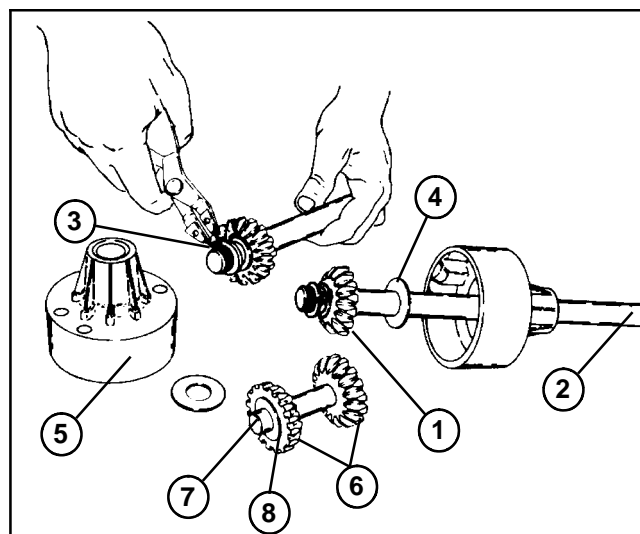

Figure 44
2. Attach bevel gears to the axles. Lock each gear in place with both retaining rings. Make sure flat side of retaining rings are away from the gear (Fig. 44).
3. Coat both washers with molybdenum disulfide grease. Slide each washer onto an axle (Fig. 44).
4. Slide the long axle through the needle bearings of the differential carrier housing with the four threaded holes. Thoroughly coat the bevel gear with molybdenum disulfide grease. Make sure the gear back is flush against the washer and housing inside face (Fig. 44).
5. Slide the short axle through the needle bearings of the other differential carrier housing. Thoroughly coat the bevel gear with molybdenum disulfide grease. Make sure the gear back is flush against the washer and housing inside face (Fig. 44).
6. Slide both pinion gears to the drive pin. Attach both thrust washers to the drive pin. Make sure both ends of the drive pin are exposed. Thoroughly coat the pinion gears and drive shaft with molybdenum disulfide grease (Fig. 44).